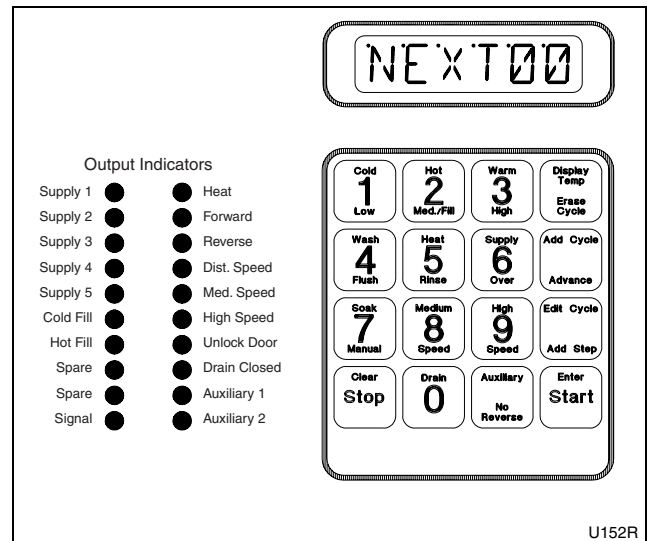

Figure 17
7. Enter the cycle number, 01-39, on the keypad. Refer to *Figure 17*.
8. Press the **START** key. Refer to *Figure 17*.